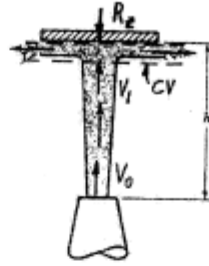

FIGURE P5.53
5.53 A vertical jet of water leaves a nozzle at a speed of 10 m/s and a diameter of 20 mm. It suspends a plate having a mass of 1.5 kg as indicated in Fig. P5.53. What is the vertical distance h ?